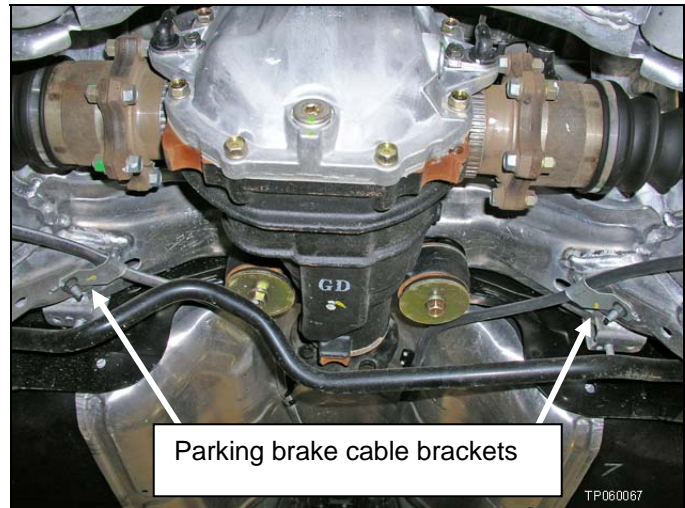

Figure 16
- a. Remove the nuts that hold the parking brake cable brackets to the rear suspension member (see Figure 16).